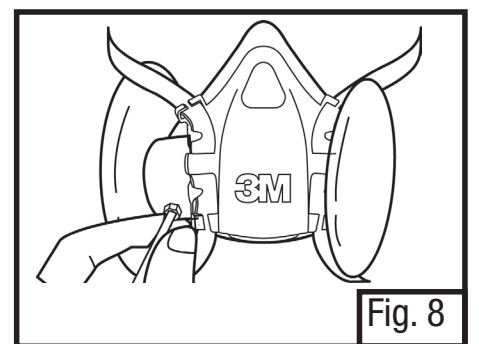

Fig. 8
11. Attach the quantitative fit test device's sample hose to the outside fitting of the 601 Adapter (Fig. 8).